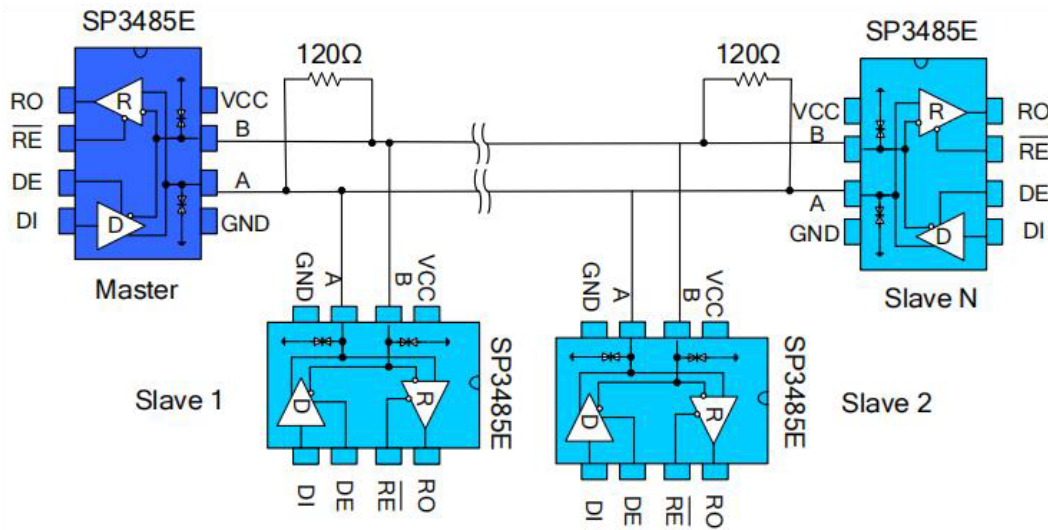

Fig. 9 Bus-type RS485 half-duplex communication network
4.1 Bus networking: The SP3485EN RS485 transceiver is designed for bidirectional data communication on multi-point bus transmission lines. Figure 9 shows a typical network application circuit. These devices can also be used as linear repeaters with cables longer than 4000 feet. In order to reduce reflections, terminal matching should be done at both ends of the transmission line with their characteristic impedance, and the length of the branch wires other than the main line should be as short as possible.